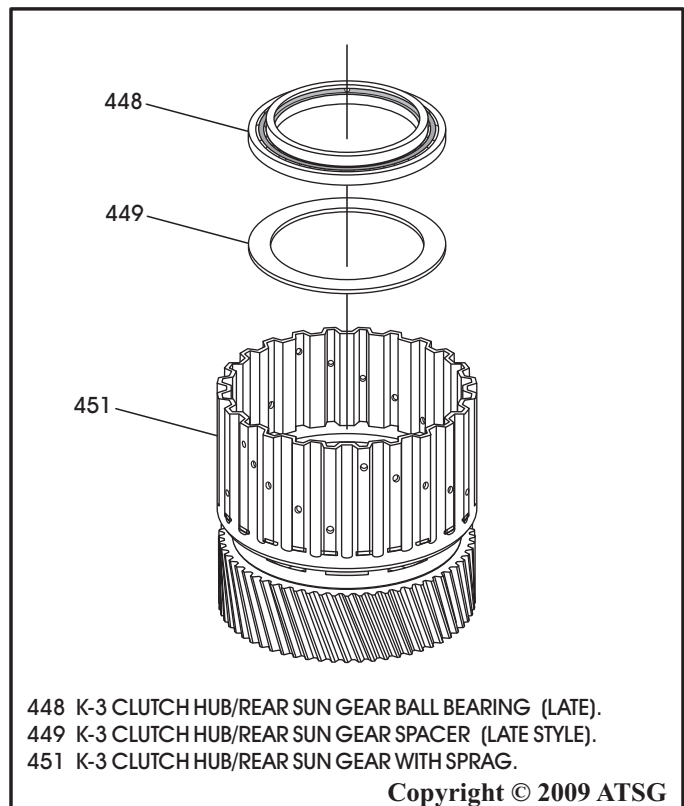

Figure 127
7. If you have the late ball bearing style, install spacer and ball bearing with the step facing up, as shown in Figure 127.